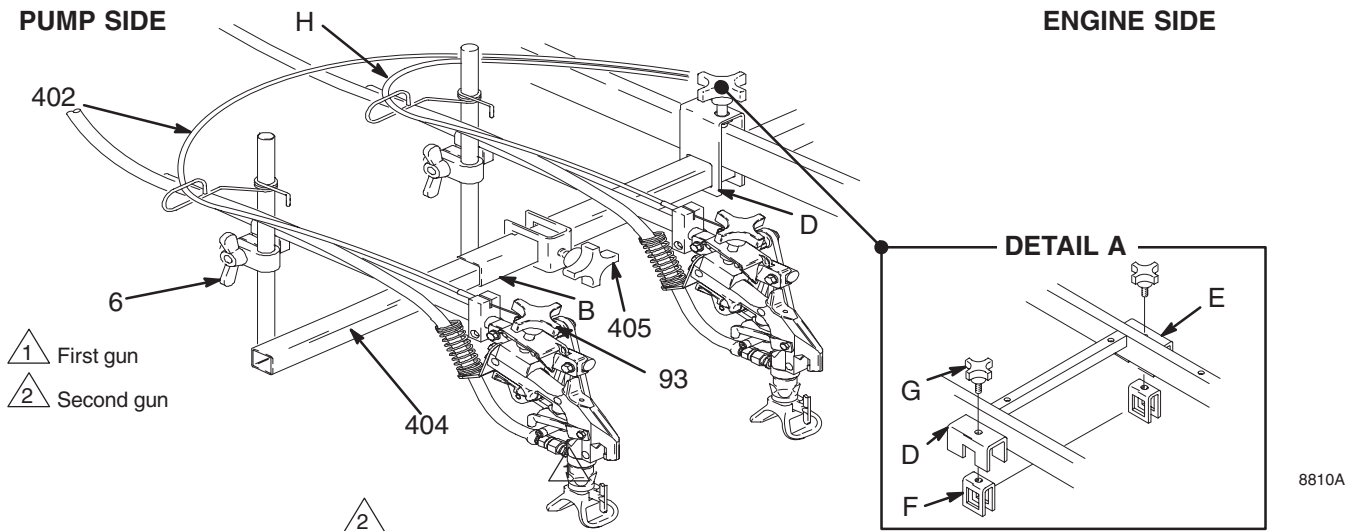
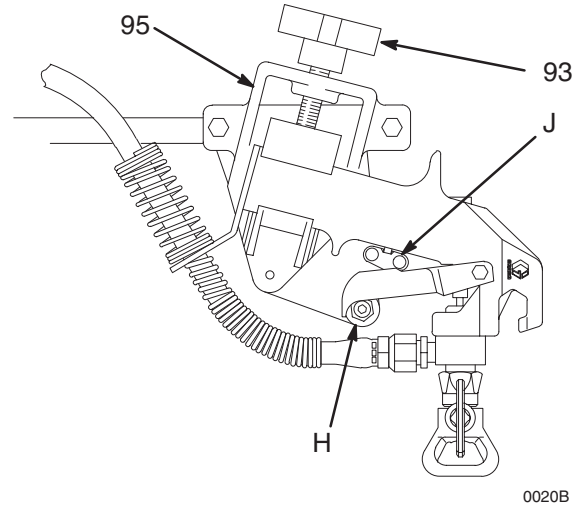

Fig. 3
Fig. 4
1. For both guns, disengage the cable (402, H) and engage the trigger safety lever. See Fig. 4.
2. Loosen the gun holder knobs (93) and remove the guns. Lay the guns out of the way.
3. Remove the knobs (G) on both carriage clamps (D); The carriage bar (B) and extension clamps (F) will drop down.
5. Position the carriage bar below the carriage clamps (D). Align the holes in the top of the extension clamps (F) with the holes in the carriage bar clamps and install the knobs (G). See Fig. 3, DETAIL A.
6. Loosen the post/arm clamps (6) and rotate the gun arms (G) forward. Tighten the clamps.